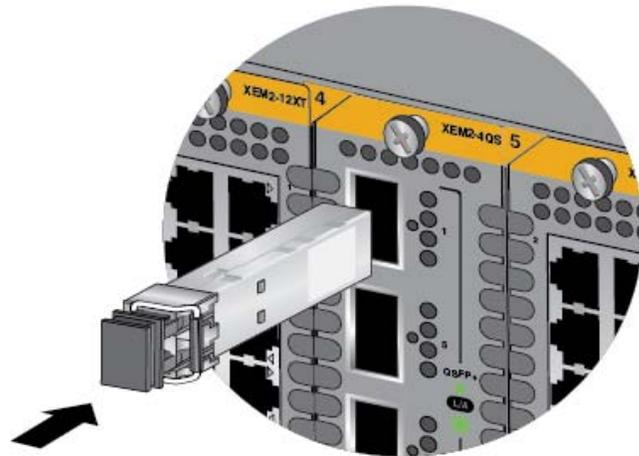

Figure 104. Installing a Fiber Optic Transceiver in the XEM2-4QS Line Card
- ❑ XEM2-4QS Line Card - Figure 104 shows an QSFP4 transceiver being installed in an XEM2-4QS Line Card.